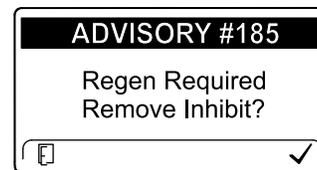

Figure 65
**Note:** If you set the InfoCenter to inhibit regeneration, the InfoCenter displays ADVISORY #185 (Figure 65) every 15 minutes while the engine requests a reset regeneration.